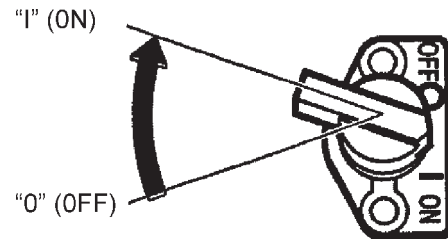

Figure 11. Engine ON/OFF Switch (ON)
5. Place the **engine ON/OFF switch** (Figure 11) in the **ON** position.